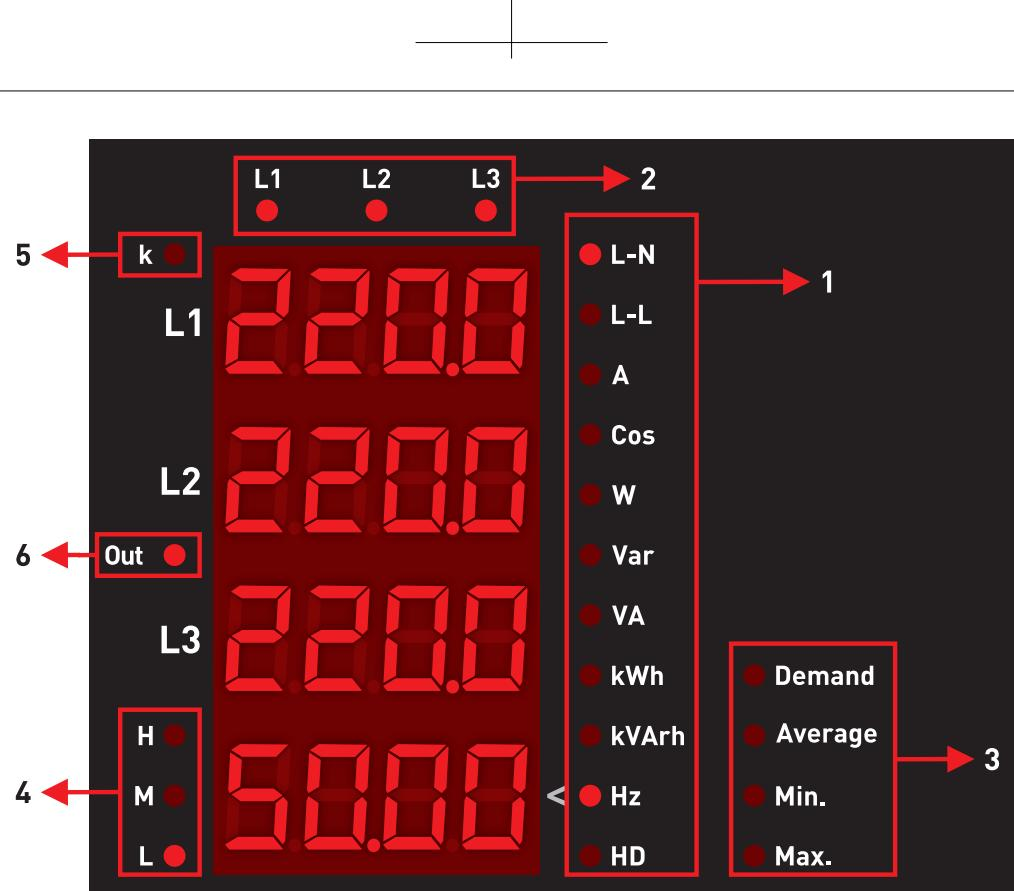

Figure-2
**Ex.:** In the above screen (Figure-2), the phase-neutral voltage values and Hz (frequency) value of L1, L2 and L3 are shown. The current drawn from the system is between 0A and 1A and Out1 contact is active.